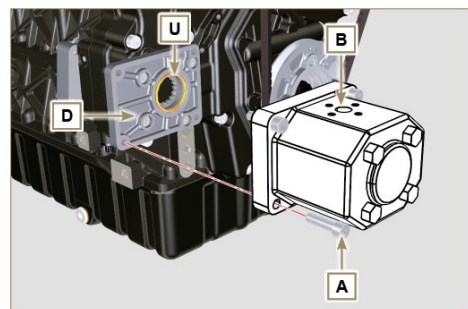

Fig 11.31
3. Position the flange **F** on the crankcase **K** inserting the gasket **J**, and inserting the gear **H** up to the stop on the bearing **L** (Fig. 11.31).